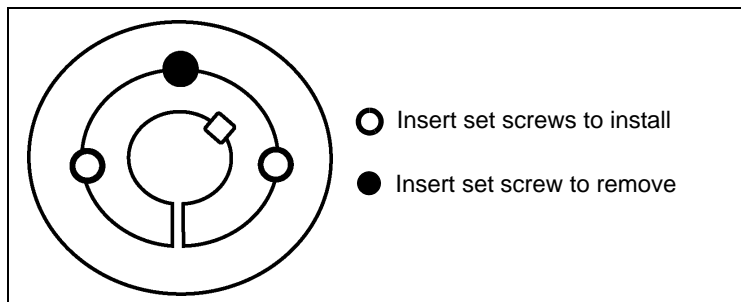

Figure 4A Number 1008 to 3030 Bushing
3. Lightly oil set screws and thread into the half-threaded holes indicated as in Figure 4A.
2. Insert screws in hole or holes indicated on Figure 4A on Page 20. Loosen the bushing by tightening the screw(s).